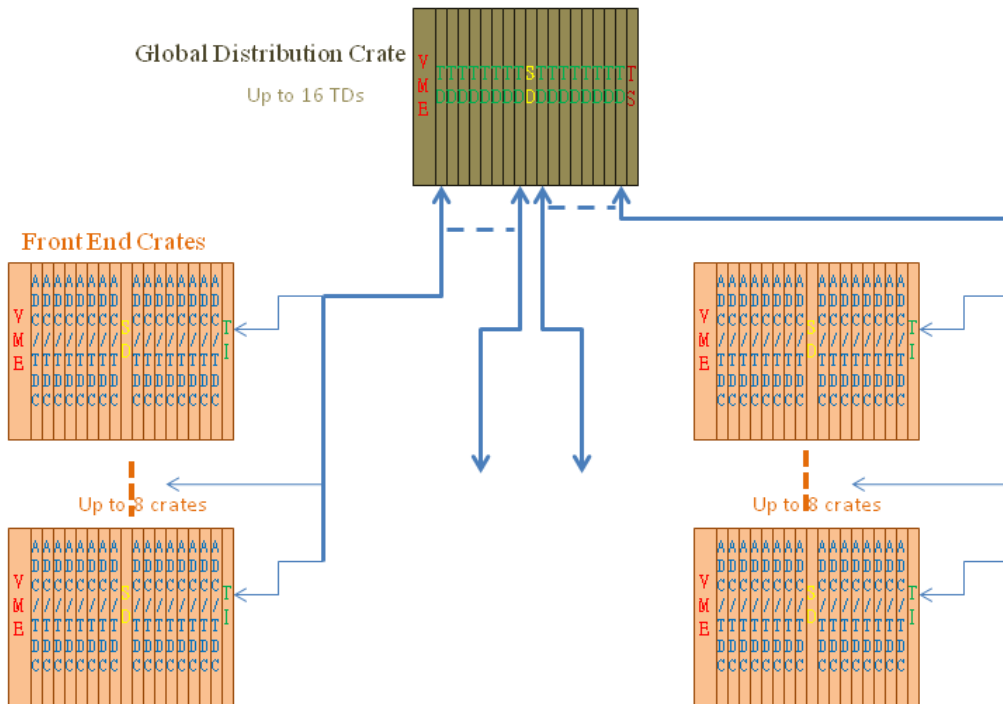

**Figure 1 Trigger distribution scheme**
The Trigger Supervisor (TS) version 4 module is being designed for the Jefferson Lab 12GeV upgrade, mainly for Hall-D [ (Collaboration G. , 2009)] and Hall-B [ (Collaboration C. , 2009)], with other experimental Halls [ (experiments, 1990)] compatibility. This module is the interface between the trigger system and data acquisition system of the experiment. The TS acts as the central control point for data acquisition. It provides a synchronous clock source to the experiment, trigger signal for the data readout, and a sync signal to align the frontend electronics. Together with the Trigger Interface (TI) boards, Trigger Distribution (TD) boards and Signal Distribution (SD) boards, the clock, trigger and sync signals are distributed to the frontend electronics, and the BUSY signals from the frontend electronics are monitored. Figure 1 shows the placement of the TS, TI, TD and SD in the global trigger distribution scheme in experiment setup.